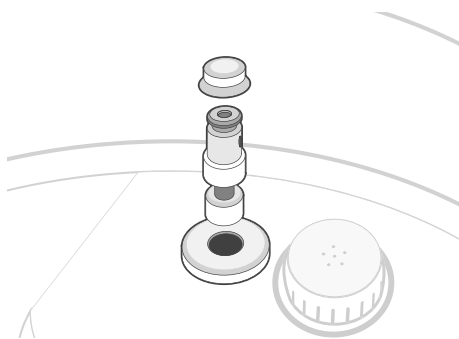

Figure 10.3
- c. Remove the silicone cap from the float valve. The float valve may drop out unexpectedly without the silicone cap, so remove carefully. **[Figure 10.3]**